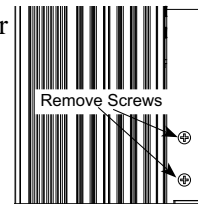

Figure 1
3. Using a suitable tool remove the two screws from each side of the MC1.25KW Rear Chassis Handle and temporarily place them in a safe place. Refer to figure 1.